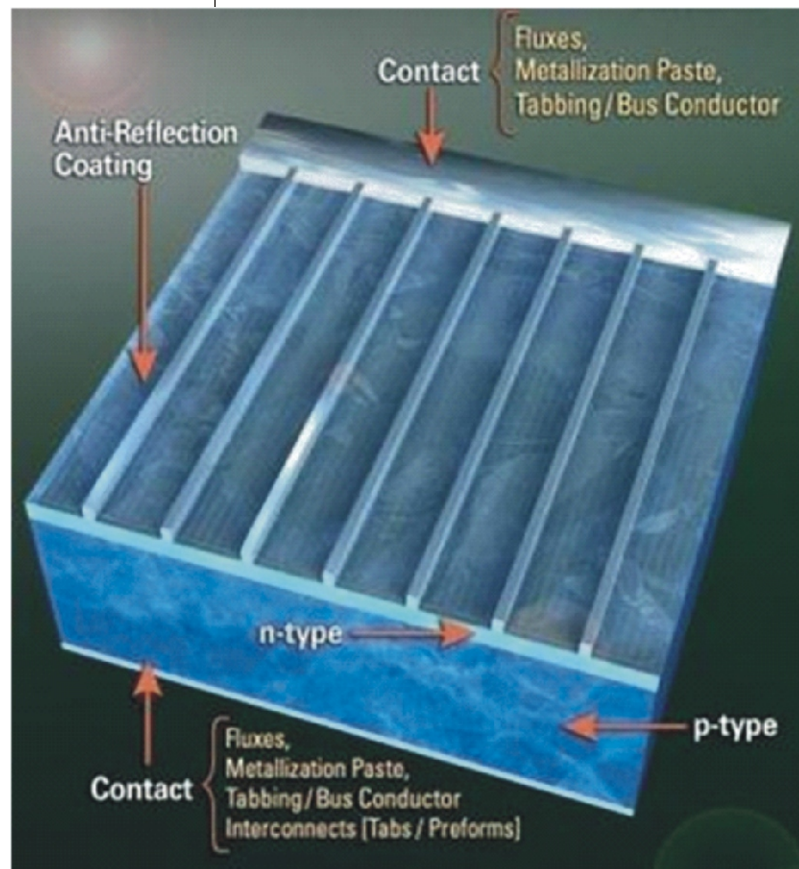

Fig. 1. Crystalline silicon solar cell.
The increasing demand for clean energy has caused photovoltaic (PV) module production to nearly double, year on year, in recent times. There are four types of PV modules being produced: copper-indium-gallium-selenium (CIGS), cadmium-telluride (CdTe), amorphous silicon (a-Si), and silicon (Si). CIGS, CdTe, and a-Si are the newest photovoltaic assembly technologies. CIGS is the most promising in terms of reliability (lifecycle), efficiency, and cost. Numerous start-up companies in the U.S., and established companies in Europe, have embraced this technology. CdTe is a proven solution for cost-effective thin-film PV technology and has been on the market for years. Modules made using this material deliver power for as little as \$.80/W. a-Si is a non-crystalline silicon technology made using chemical vapor deposition (CVD) to layer optical coatings over a large area at low temperatures. This enables deposition on polymer substrates to produce flexible thin-film solar cells. Si and crystalline silicon (c-Si) (Figure 1) remain the most traditional and widely used technologies, holding nearly 80%